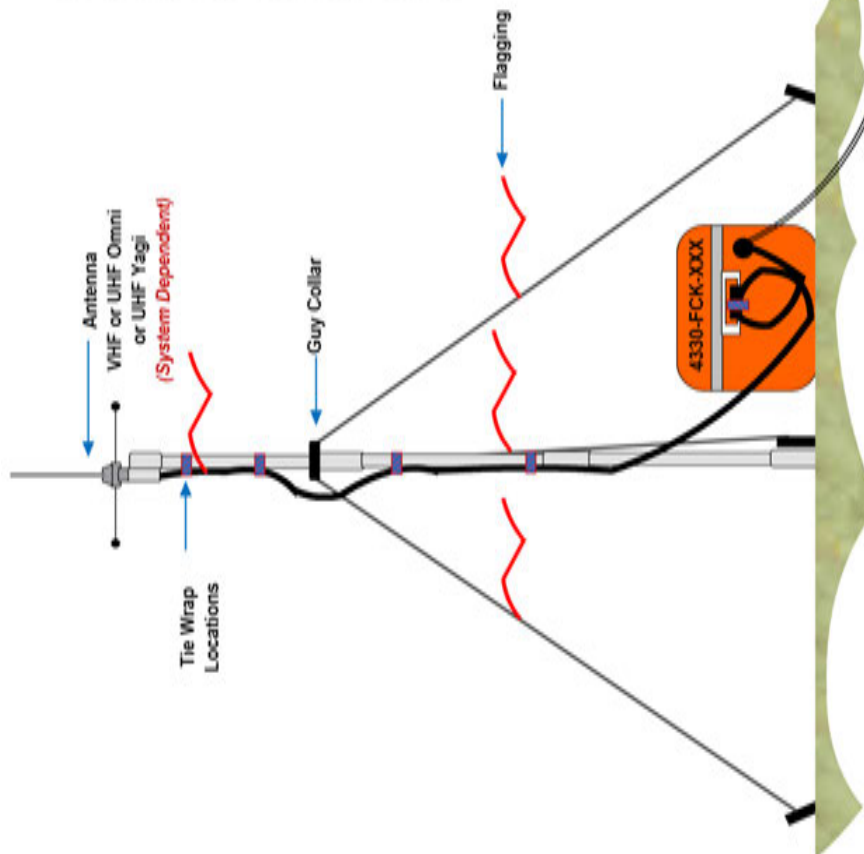

Figure 1:
1. Antenna Installation: (See Figure 1)
4. Field Wire Setup: (See Figures 1, 2, 3 and 4)